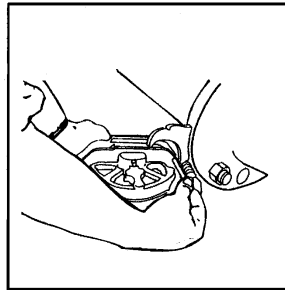

FIGURE 4
3. To clean Cam-Check, locate the Cam Arm opening stud on the outlet flange of the valve assembly. Slide the Cam Arm over the stud with the check threads facing downward (fig. 2). Tighten a 1/4" nut on stud to secure cam bar. Slowly pull the assembly outward to open check allowing exposure of the seat and clapper contact area for cleaning. The assembly may be locked open by aligning the holes in the cam bar and hinge arms and inserting a rod (fig. 4).